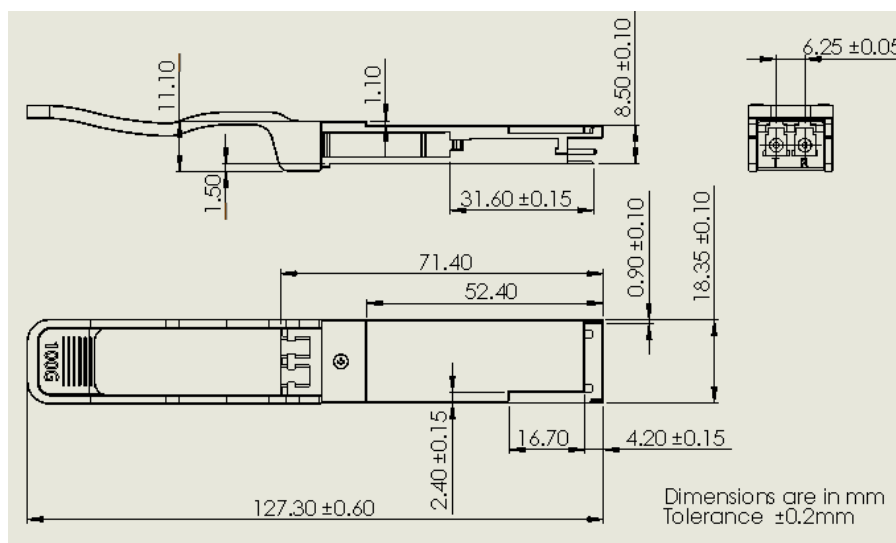

Figure 4. Mechanical Outline
- VccRx, Vcc1 and VccTx are the receiver and transmitter power suppliers and shall be applied concurrently. Recommended host board power supply filtering is shown in Figure 4 below. Vcc Rx, Vcc1 and Vcc Tx may be internally connected within the QSFP28 transceiver module in any combination. The connector pins are each rated for a maximum current of 1000mA.